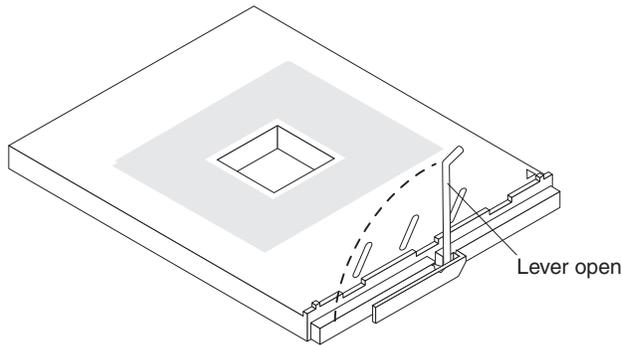

Figure 25. Opening the microprocessor-release lever
1. Lift the microprocessor-release lever (see Figure 25) to the fully open position (90°).